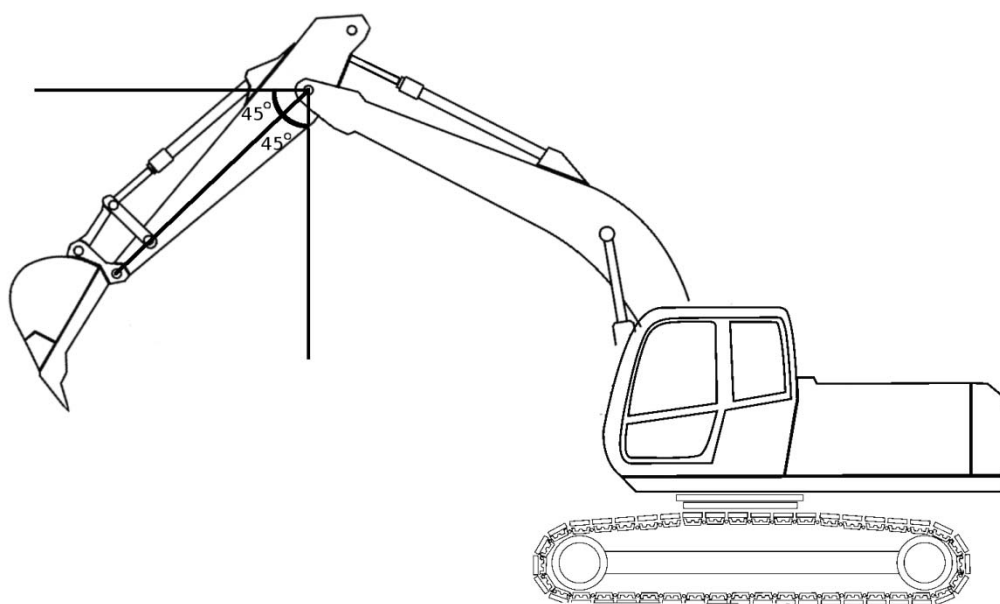

Figure 27. Calibration angle
- Move stick to an angle that is between 30...60 degrees (Figure 27). Bucket should be placed on the ground so that the stick is not sinking slowly down. Press “0.0” to calibrate. When calibration position is set, do not move the machine or the boom until you have done steps 7, 8 and 9.